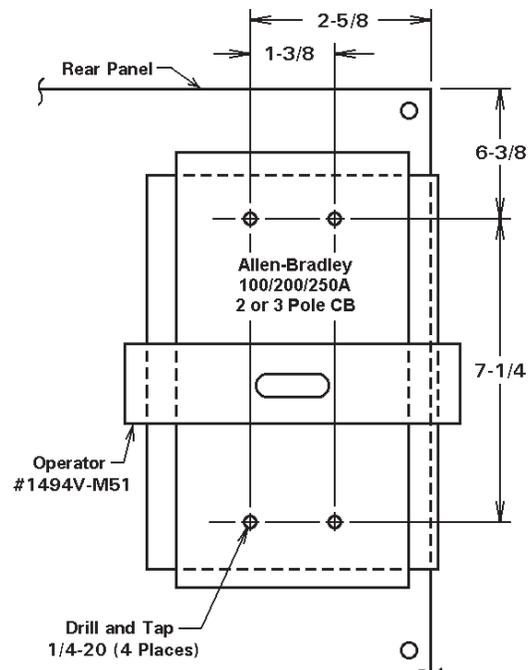

Figure 17
2. Drill and tap the Rear Panel as shown in Figure 17 (“L” Cabinet Rear Panel is already drilled).